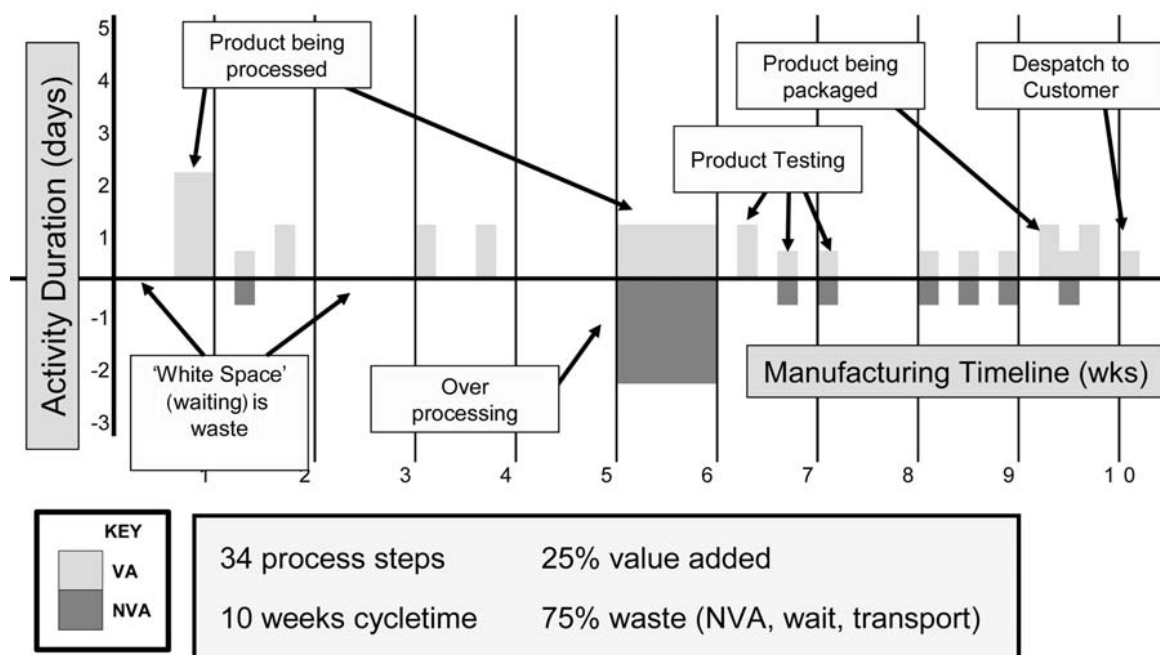

Figure 8. Time-value mapping—before...
- *Time-value mapping*—of the 10 weeks to produce a typical product from raw materials only 25% was value adding (Figure 8).
- The data collected during process mapping was converted into a time-value map (Figure 8). This type of analysis denotes value added activities as green and waste as red, i.e., the initial days are shown as waiting for the schedule.